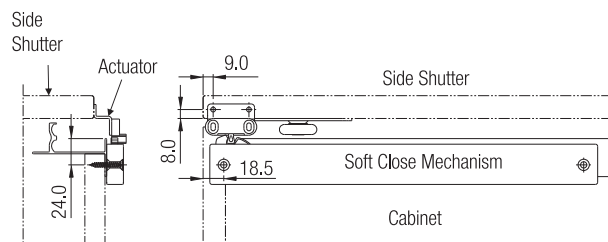

Fig. 9
- 7.2. Fit the Soft Close Assembly to the side shutters as shown in Fig. 9.